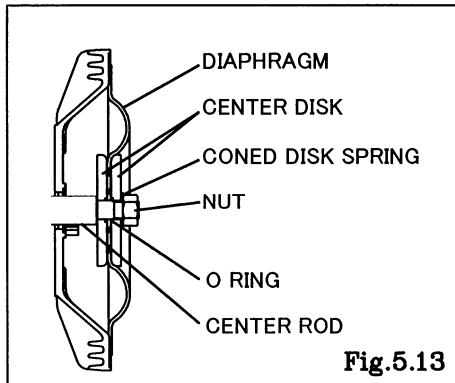

Fig.5.13
- Keep the convex side to the outside (cf. Fig. 5.13).
- Put the O rings to both sides of the diaphragm. (cf. Fig. 5.13)